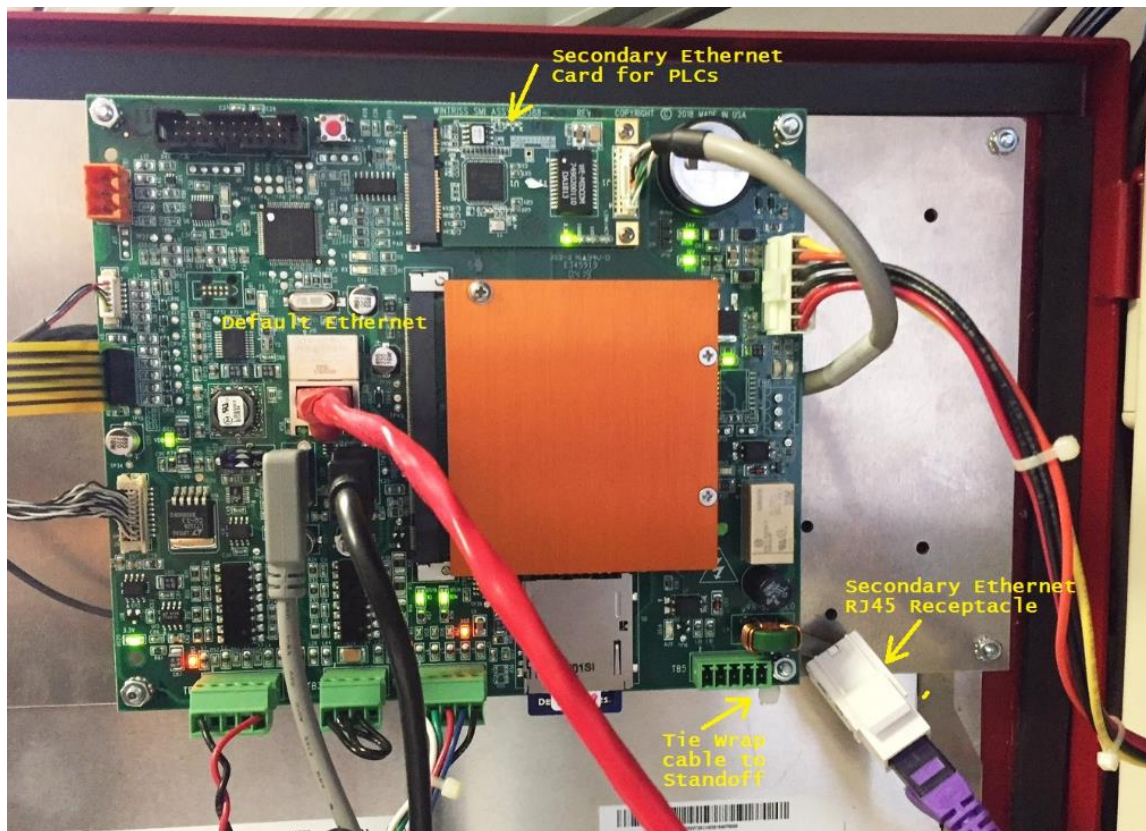

Figure 3. Mini PCIe Module Pigtail with RJ45 Socket Installed
- 5.) Next, connect the RJ45 pigtail to the J1 Connector on the module, loop the wire under the HMI board and tie wrap to the standoff as shown in Figure 3 below.